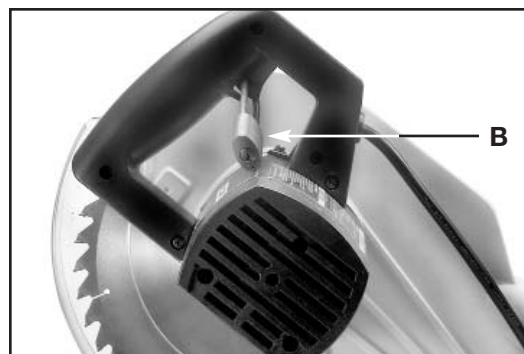

Fig. 11
**IMPORTANT:** When the machine is not in use, the switch should be locked in the “OFF” position to prevent unauthorized use, using a padlock (B) Fig. 11 with 3/16" diameter shackle.